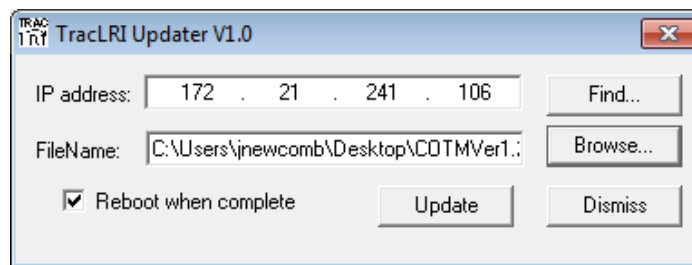

Figure 9. Updater w/ File selected
16. The file location should have appeared in the “FileName” line of the Updater window as shown above. **Fig. 9**